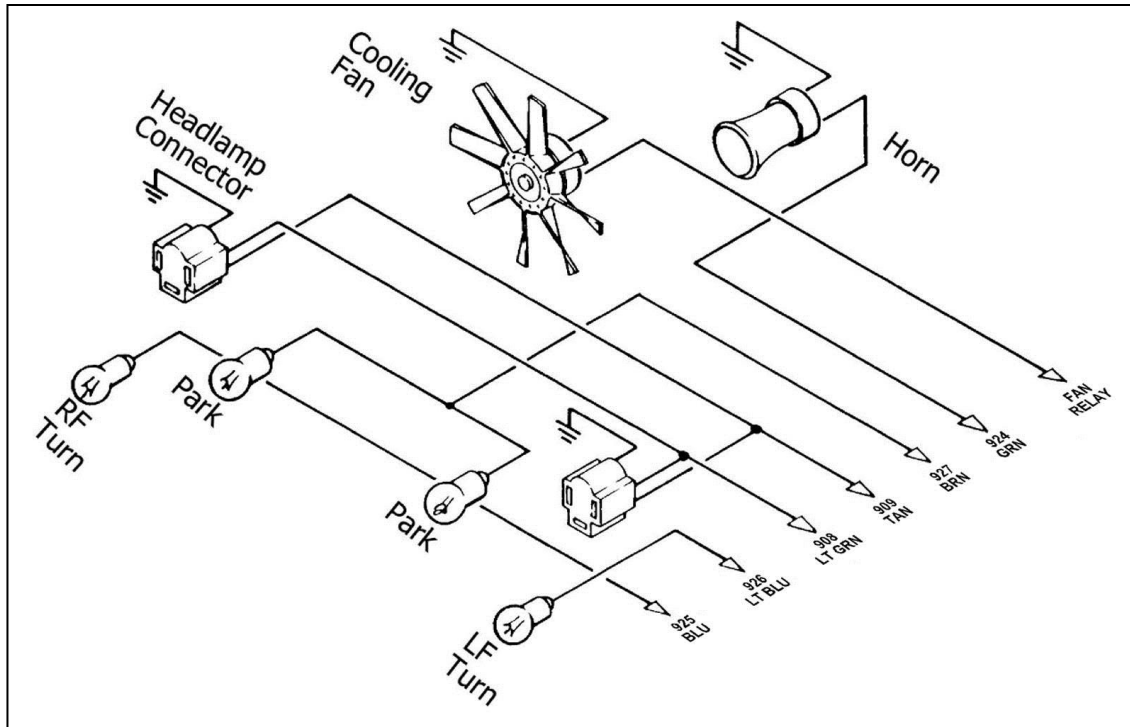

Figure 8.3 Headlight Section "A" Wiring
8.3 HEADLIGHT SECTION "A" WIRING. See Figure 8-3
- 8.3.2** Connect HEADLIGHT SECTION A wire #908 (lt.grn) to the green wire of BOTH headlamp connectors. If you have a quad headlamp setup you will need to connect the two high beam headlamps to this wire as shown in **Figure 8-3**. Connect wire #909 (tan) to the tan wires of both headlamp connectors. Connect the black wires of the headlamp connectors to chassis ground. You should have enough wire to accomplish this. You have been supplied with two small grommets should you need to pass these wires through a fender well. Don't forget to thread them onto the wires BEFORE you connect the wires.